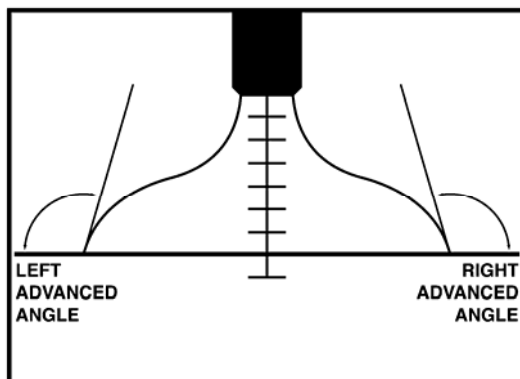

Figure 12
- 3) Move the needle approximately (1) needle diameter from the surface. Slowly dispense the droplet until it makes contact with the surface. Move the stage down slowly such that the droplet is approximately (2) needle diameters from the surface. The droplet should still be attached to the surface and be immersed by the needle tip. (See Figure 12 below).